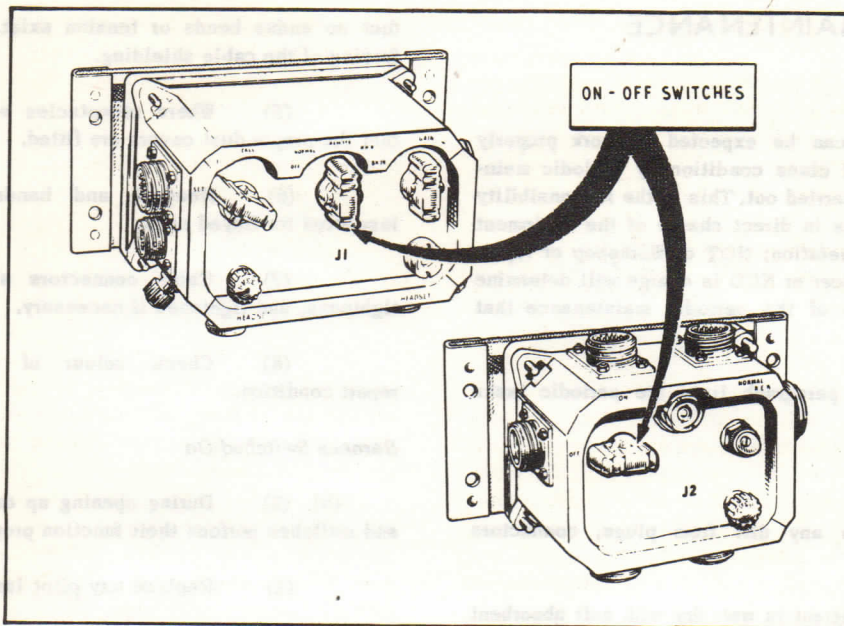

FIG 27 ON-OFF SWITCHES
27. The control harness is switched OFF by the switches shown in Fig 27. Switch off the set(s).